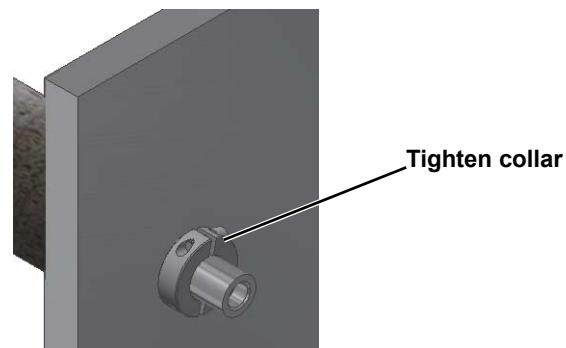

Figure D-11: Secure the heated-line assembly to the oven wall with the two-piece shaft collar.
2. Lock the heated line to the oven wall by reattaching the two-piece shaft collar on the inside of the oven wall as shown in Figure D-11.